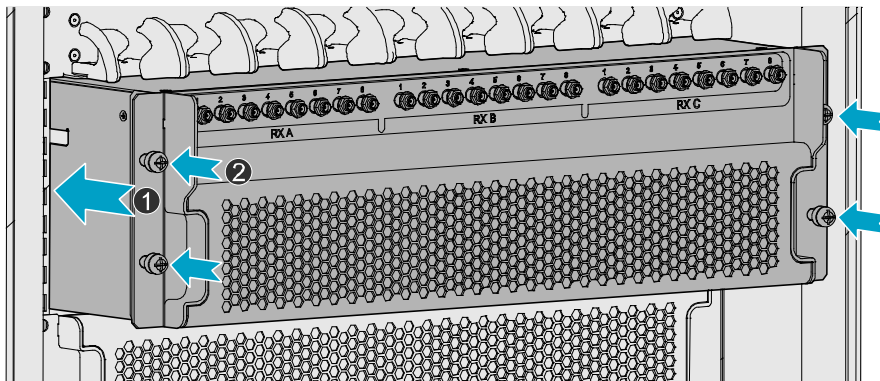

Figure 3-13 Installing the Divider Unit
**Step 5** Install the DIU as shown in Figure 3-13.